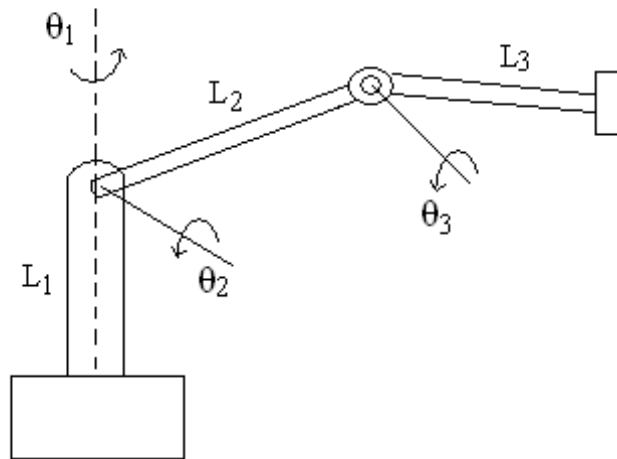

Figure 1
8. Determine the manipulator Jacobian matrix for the 3 DOF articulated arm Shown in figure 1. [16]